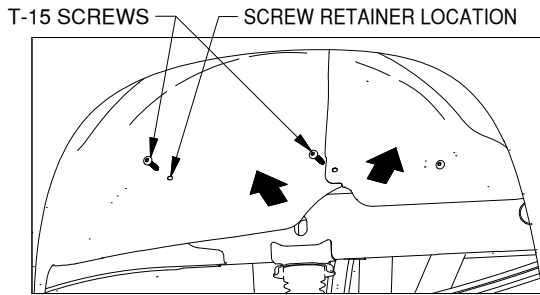

Figure A5: View looking into driver side wheel well.
- 10. Un-attach the wheel well liners.** Check for the presence of flexible wheel well liners in the truck wheel wells. If present, two T15 Torx screws will need to be removed so that the liners can be folded up and allow the cross members and side plates to be installed, see Figure A5. Remove the screw retainer from forward most hole using a screw driver. It will be replaced after the hitch is installed.